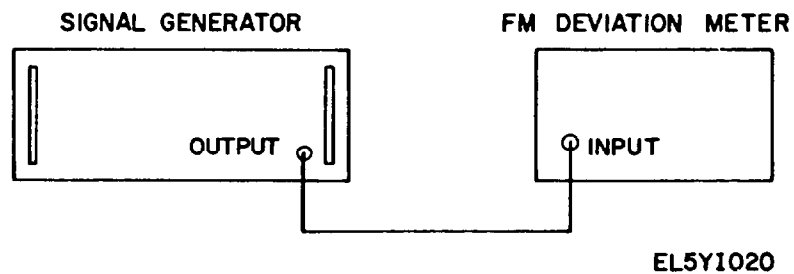

FIG 9-9. TEST SETUP, DEVIATION ACCUARACY
- a.** Connect the equipment as shown in figure 9-9.